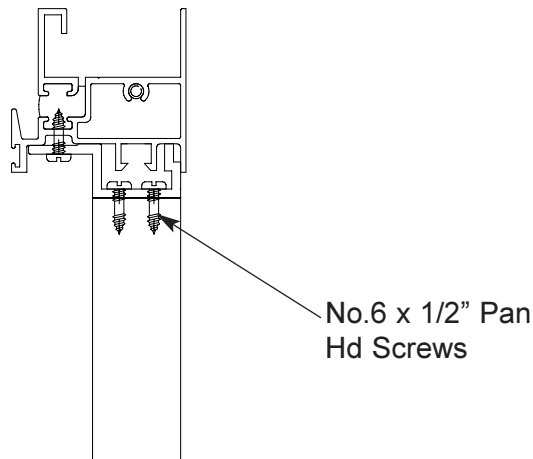

Fig.35
- A pair of handed sash horns (A572) may be supplied with the kit or alternatively, retrofitted after installation. The horns are fitted to the bottom rail of the top sash as shown above (Fig.35).